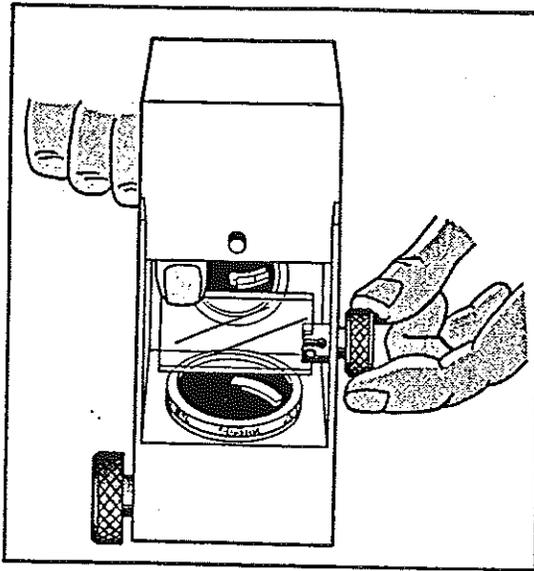

Fig. 20
- (d) Slacken the mirror locking knob which is on the left hand side of the camera body (Fig. 20).